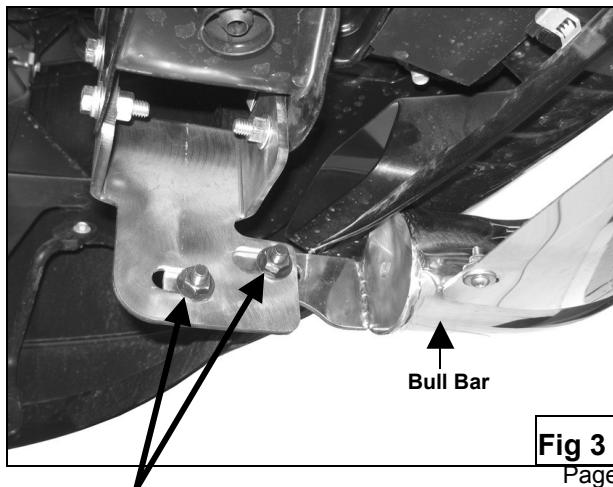

Fig 3
8. With help position Bull Bar on the outer side of Mounting Brackets. Attach Bull Bar to Mounting Brackets using the included (4) 12-1.75mm x 35mm Hex Head Bolts, (4) 12mm Lock Washers, (4) 12mm Hex Nuts, and (8) 12mm Flat Washers (**Figure 3**).